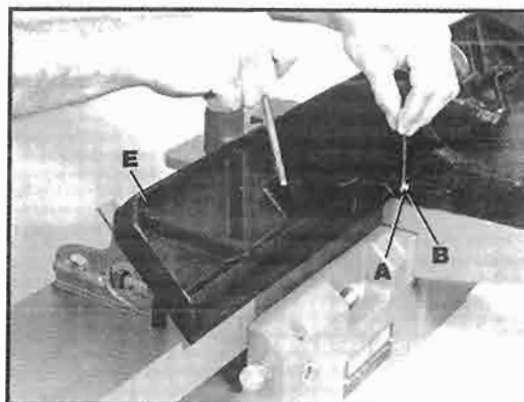

Fig. 23
2. Loosen locknut (A) Fig. 23, and turn adjustment screw (B) until the fence (E) is set accurately at 45 degrees to the table surface.
3. Retighten locknut (A) Fig. 23.